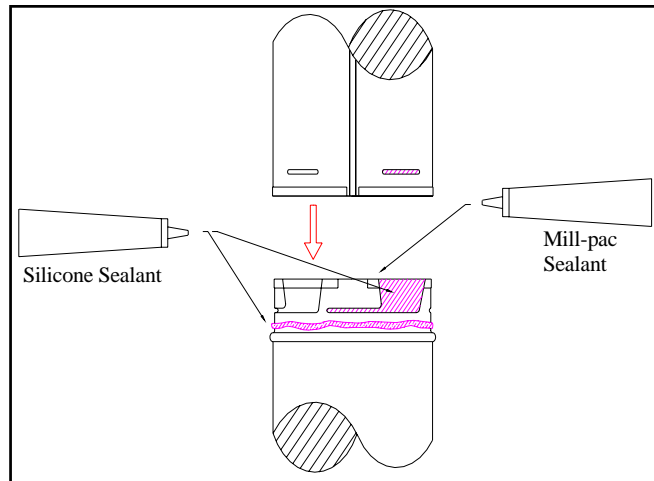

Fig. 11 – Applying Sealant
3. To properly assemble the Simpson Vent pipe a high heat sealant, such as Mil-Pac or Dap High Heat Mortar, should be used to ensure an airtight vent. Apply the sealant to the inner collar of the pipe, line up the lugs on the outside of the pipe, slip the pipe together and then twist the pipe to lock the lugs together (see fig 11). Wrap the outer seam of the vent pipe with aluminum tape or seal with silicone.